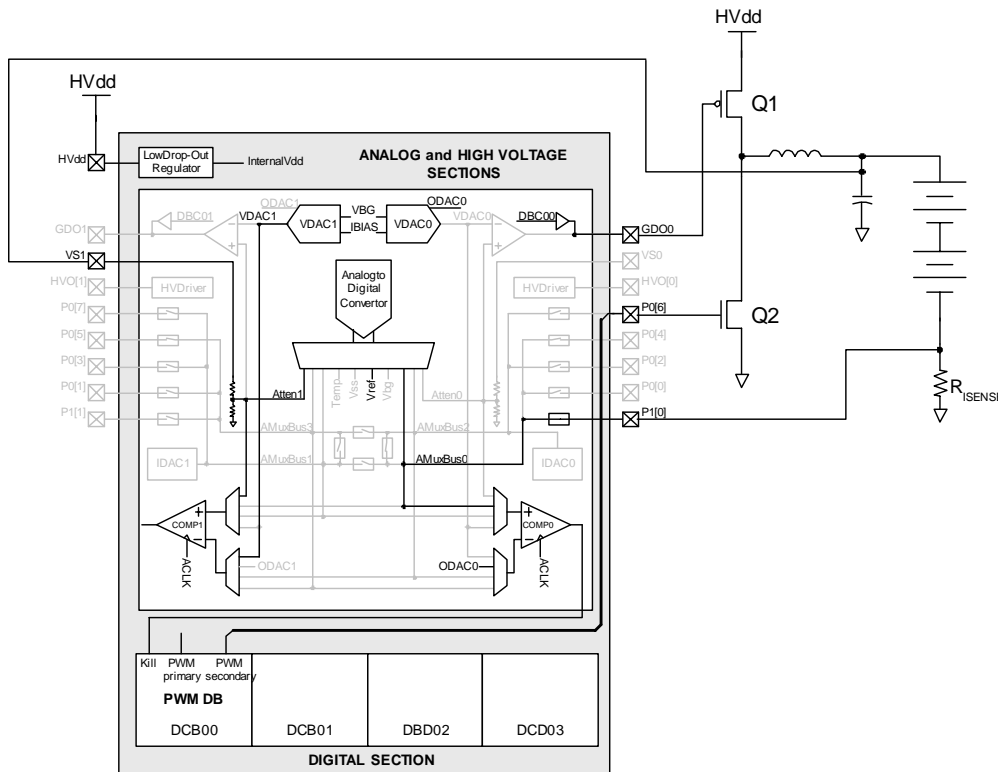

Figure 5-2. Buck Converter Battery Charger with Current Limit
A battery charger is constant current and constant voltage power supply. At different points in a charging cycle a Lithium Ion battery requires a constant current or a constant voltage to be applied. The CY8C42x23 Power PSoC can be configured as a constant voltage or constant current linear supply. In this configuration, the HVdd voltage is high enough to drive one or more battery in series and a lower voltage must be generated efficiently. Lithium Ion batteries have a fully charged voltage of 4.2V. With the two-cell configuration in *Figure 5-2*, HVdd would have to be at least 8.4V (plus allowance for voltage losses in the FET and the current sense resistor, RISENSE). The HVdd voltage is converted to 5V by the internal Low Drop-Out Regulator for use by the Power PSoC Core.
*Figure 5-2* shows an inductor, two FETs, and a capacitor configured as a buck converter with the CY8C42x23 as the controller. The voltage on the capacitor is fed back through a voltage sense pin, VS1, and an attenuator, Atten1, to the comparator, COMP1. The output of the comparator controls a single PSoC digital block configured as a pulse width modulator (PWM). The reference for the comparator is the output of VDAC1. When the attenuator output exceeds the reference, the comparator will stop the PWM using the "Kill" input. This creates a feedback loop that maintains the VS1 node at a voltage proportional to the VDAC1 setting. The Atten1 output is also connected to the ADC so the control software can monitor the output voltage. The accuracy of the ADC and the control loop are better than 0.75%. Meeting high accuracy is critical to Lithium Ion batteries.